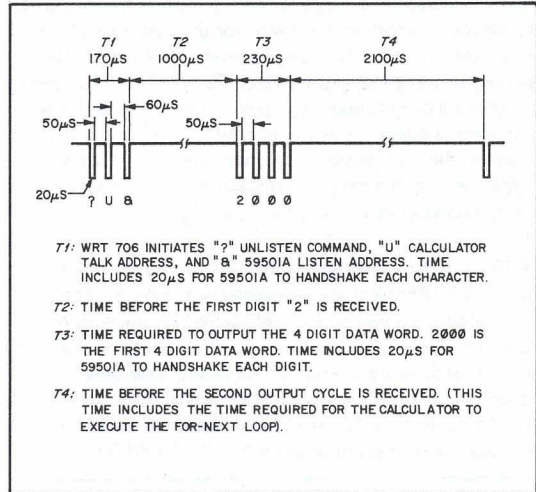

Figure 4-6. Typical 9825A/59501A Data Transfer, Timing Diagram
**4-42** This program will output 1000 (2000-2999) points to the 59501A in approximately 3.5 seconds (3.5 milliseconds per output). Each output requires (see Figure 4-6):